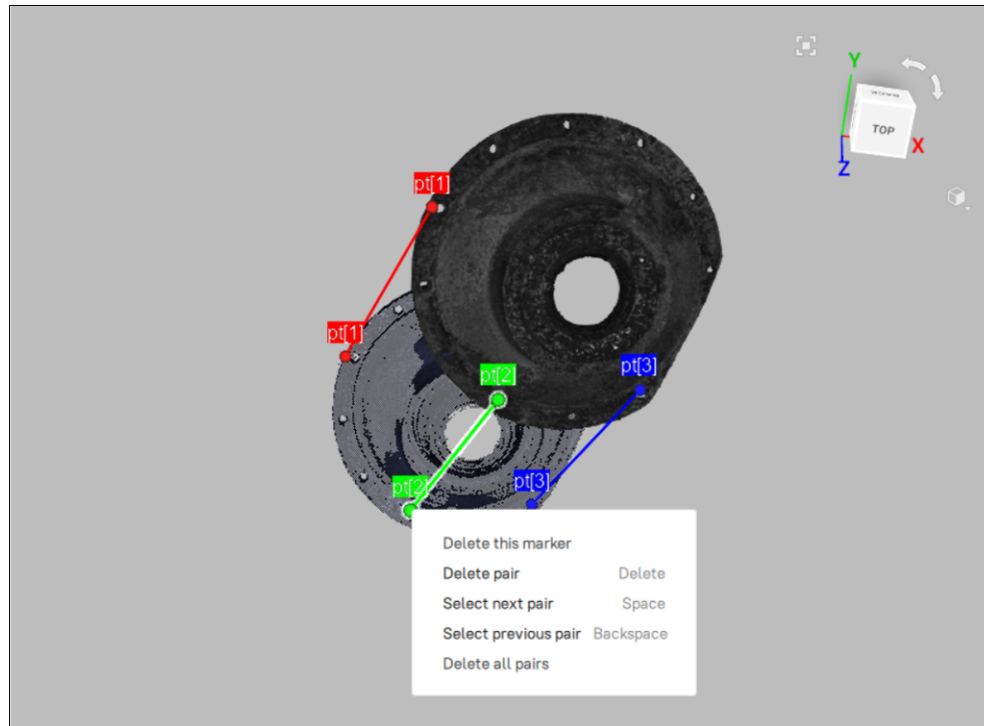
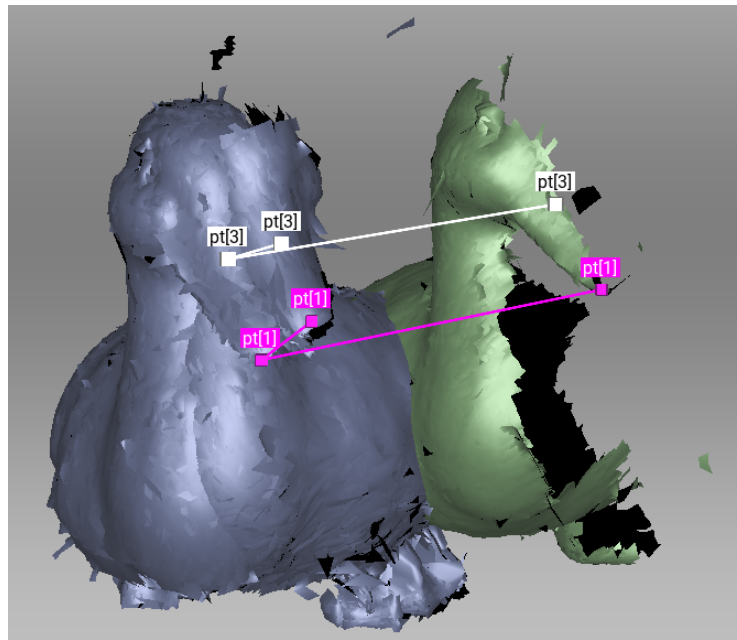

Figure 125: Creation of point pair.
Figure 130: Before alignment: two point-set added.
When specifying points in the *Best Fit* and *Nonrigid* types, the application automatically creates pairs. Having specified one pair, you can immediately create the next one. In the *Complex* type you must confirm set creation by hitting *Space* or by clicking *New set* from the left panel, because the set may comprise multiple points (see Figure 125 and Figure 130).
4. Specify several point pairs (Figure 125), keeping in mind the recommendations from *Specifying Point Sets (Markers) and Editing their Positions*.
3. Specify one or more point sets on the scan surface (see Figure 130), keeping in mind the recommendations in Specifying Point Sets \(Markers\) and Editing their Positions.